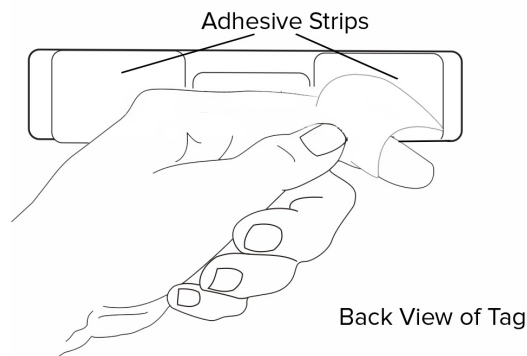

Figure 3 Exterior Tag with Adhesive Strips
2. Remove the backing from both of the adhesive strips located on the back of the tag, as shown in Figure 3.